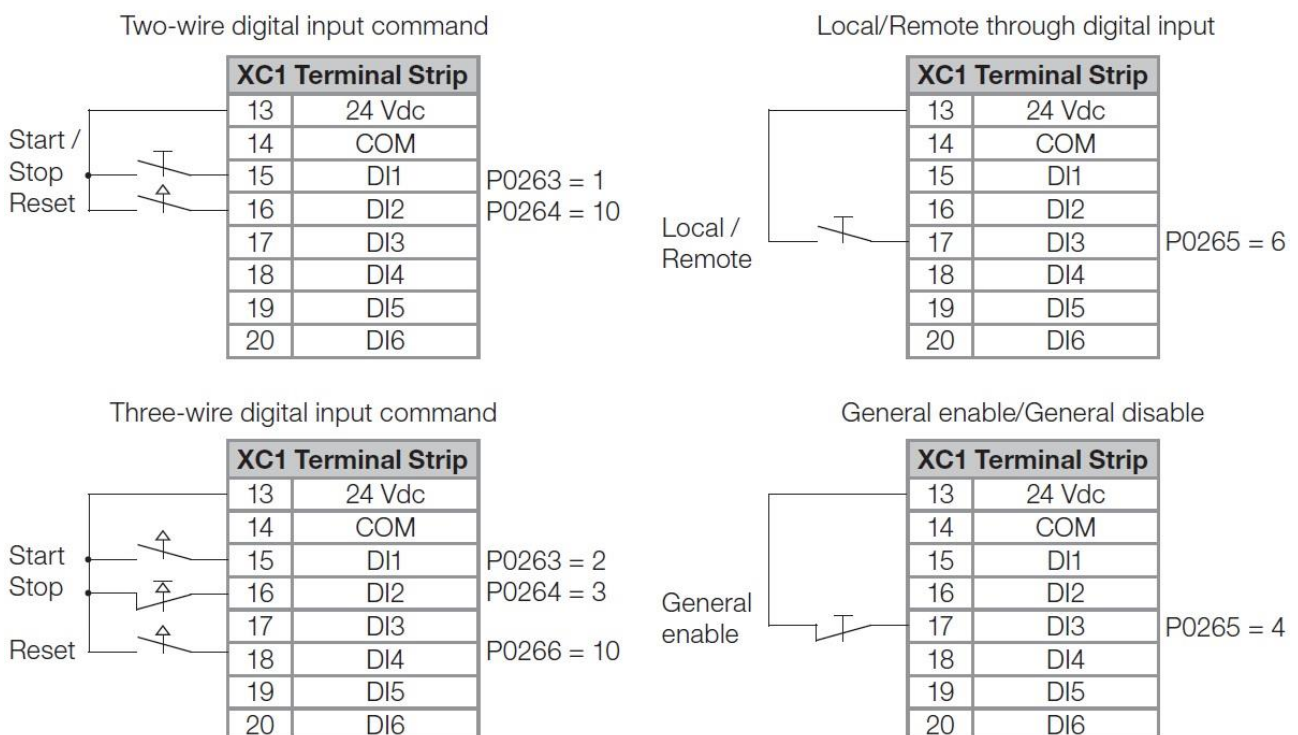

Figure 5.36: Digital input command examples
- The digital inputs feature programmable functions; figure 5.36 shows some examples of programming.